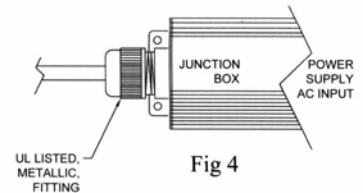

Fig 4
- Conduit fittings shall be used; UL listed, threaded on to power supply, liquid tight, metallic, provided for connection to the AC circuit (Fig 4,5).